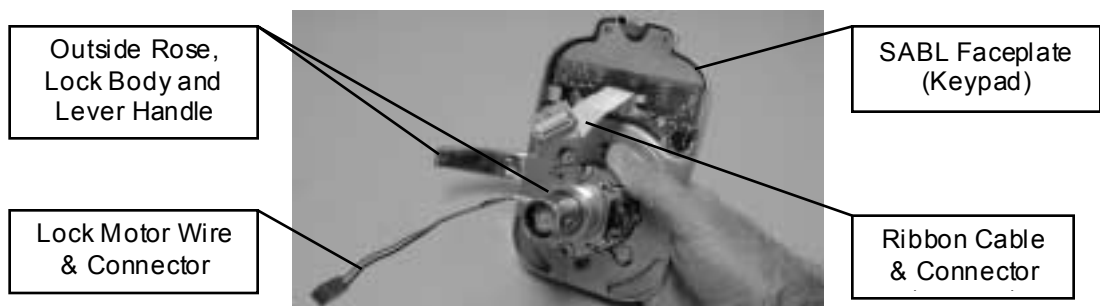

Figure 7
5. Insert the latch assembly (latchbolt) (**Item #8**) into the hole prepared in the edge of the door. Insure the beveled edge of the bolt faces toward the strike plate (door frame) and loosely install using the two (2) mounting screws provided (**Item #9**). (**DO NOT** completely tighten the screws at this point).
6. While holding the SABL faceplate (keypad) (**Item #1**), insert the end of the outside rose assembly and lock body (**Items #11, 14 and 15 – assembled**) along with the lock motor wire connector through the lockset opening in the faceplate as shown in **Figure 7**.